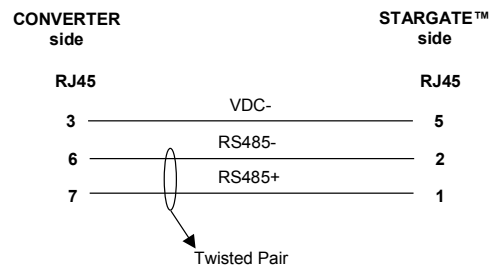

Figure 9 - Converter/STARGATE™ custom cable pinout
- D. Custom cable (see Figure 9)